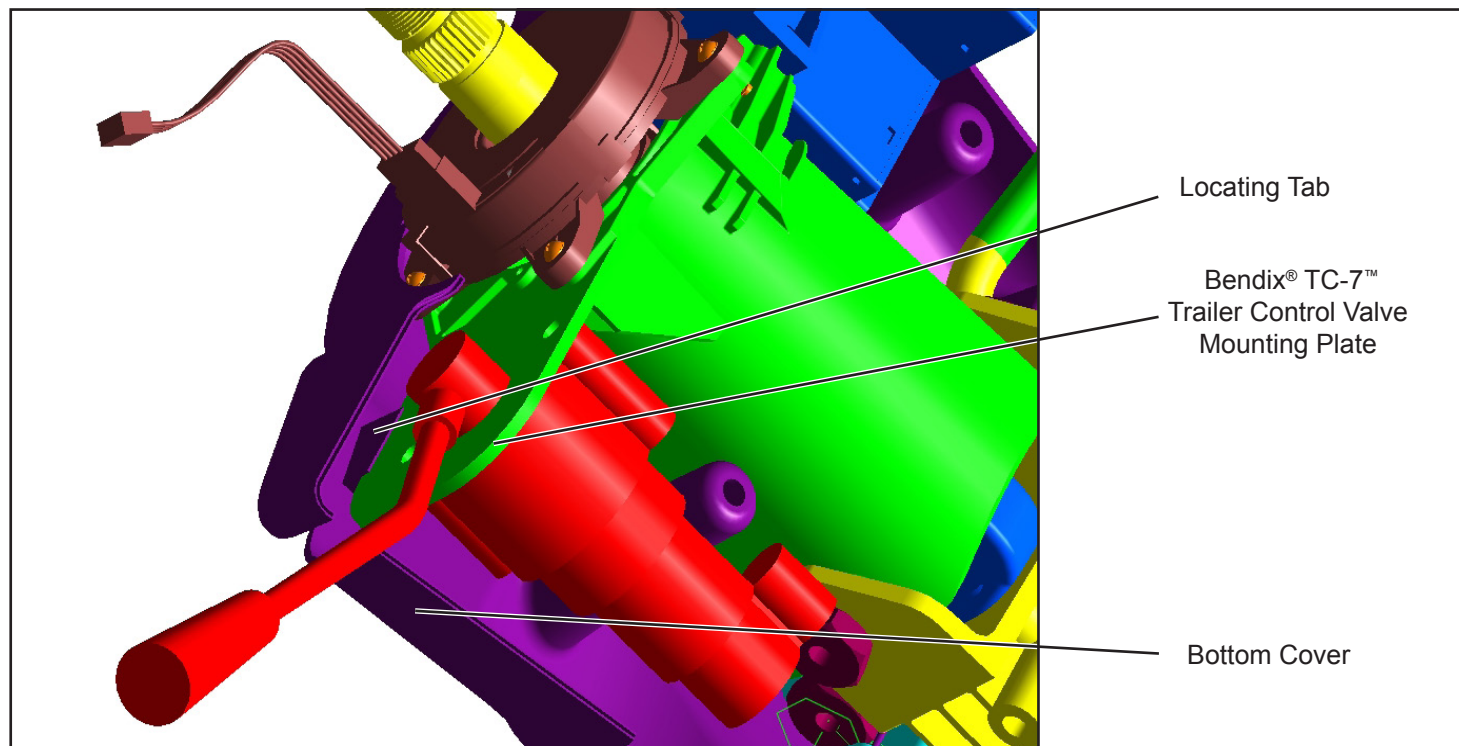

Figure 5 Bottom Cover Installation
4. Reinstall the column cover halves, starting with the bottom cover. Align the steering column screw hole of the bottom cover with the steering column hole. As shown in Figure 5, the locating tab inside the cover rests against the Bendix® TC-7™ trailer control valve mounting plate when properly positioned. Install the column screw. If the wire harness that attaches to the bottom cover becomes detached during installation, secure the wire harness and clip before installation. Align the top cover with the bottom cover and install the post screws. Tighten the center column screw to 20-40 in-lbs. For a tilt and telescoping steering column, tighten the center column screws to 10-25 in-lbs.